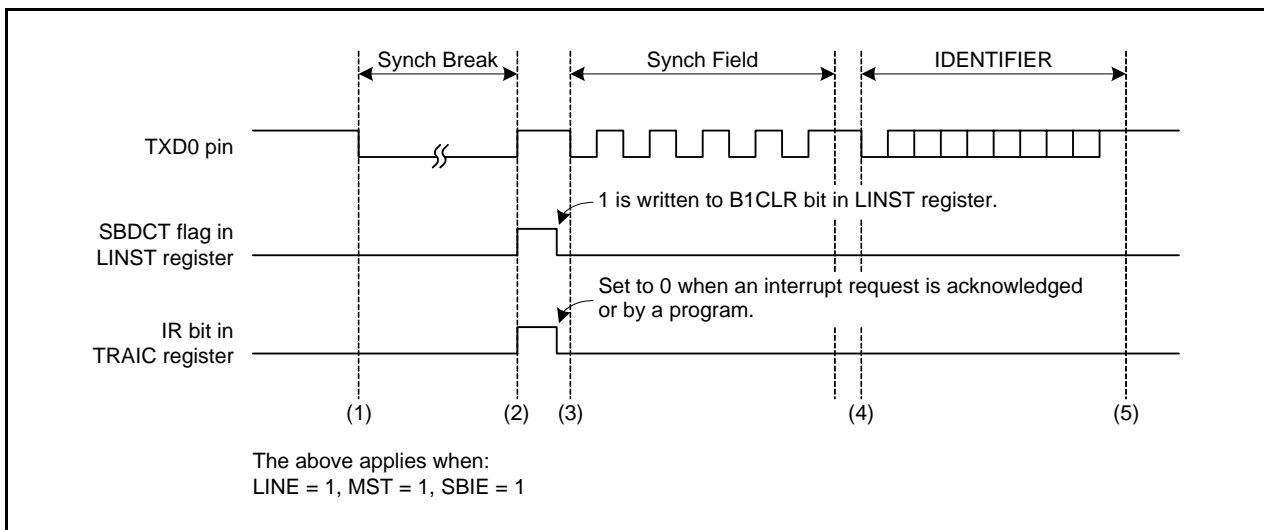
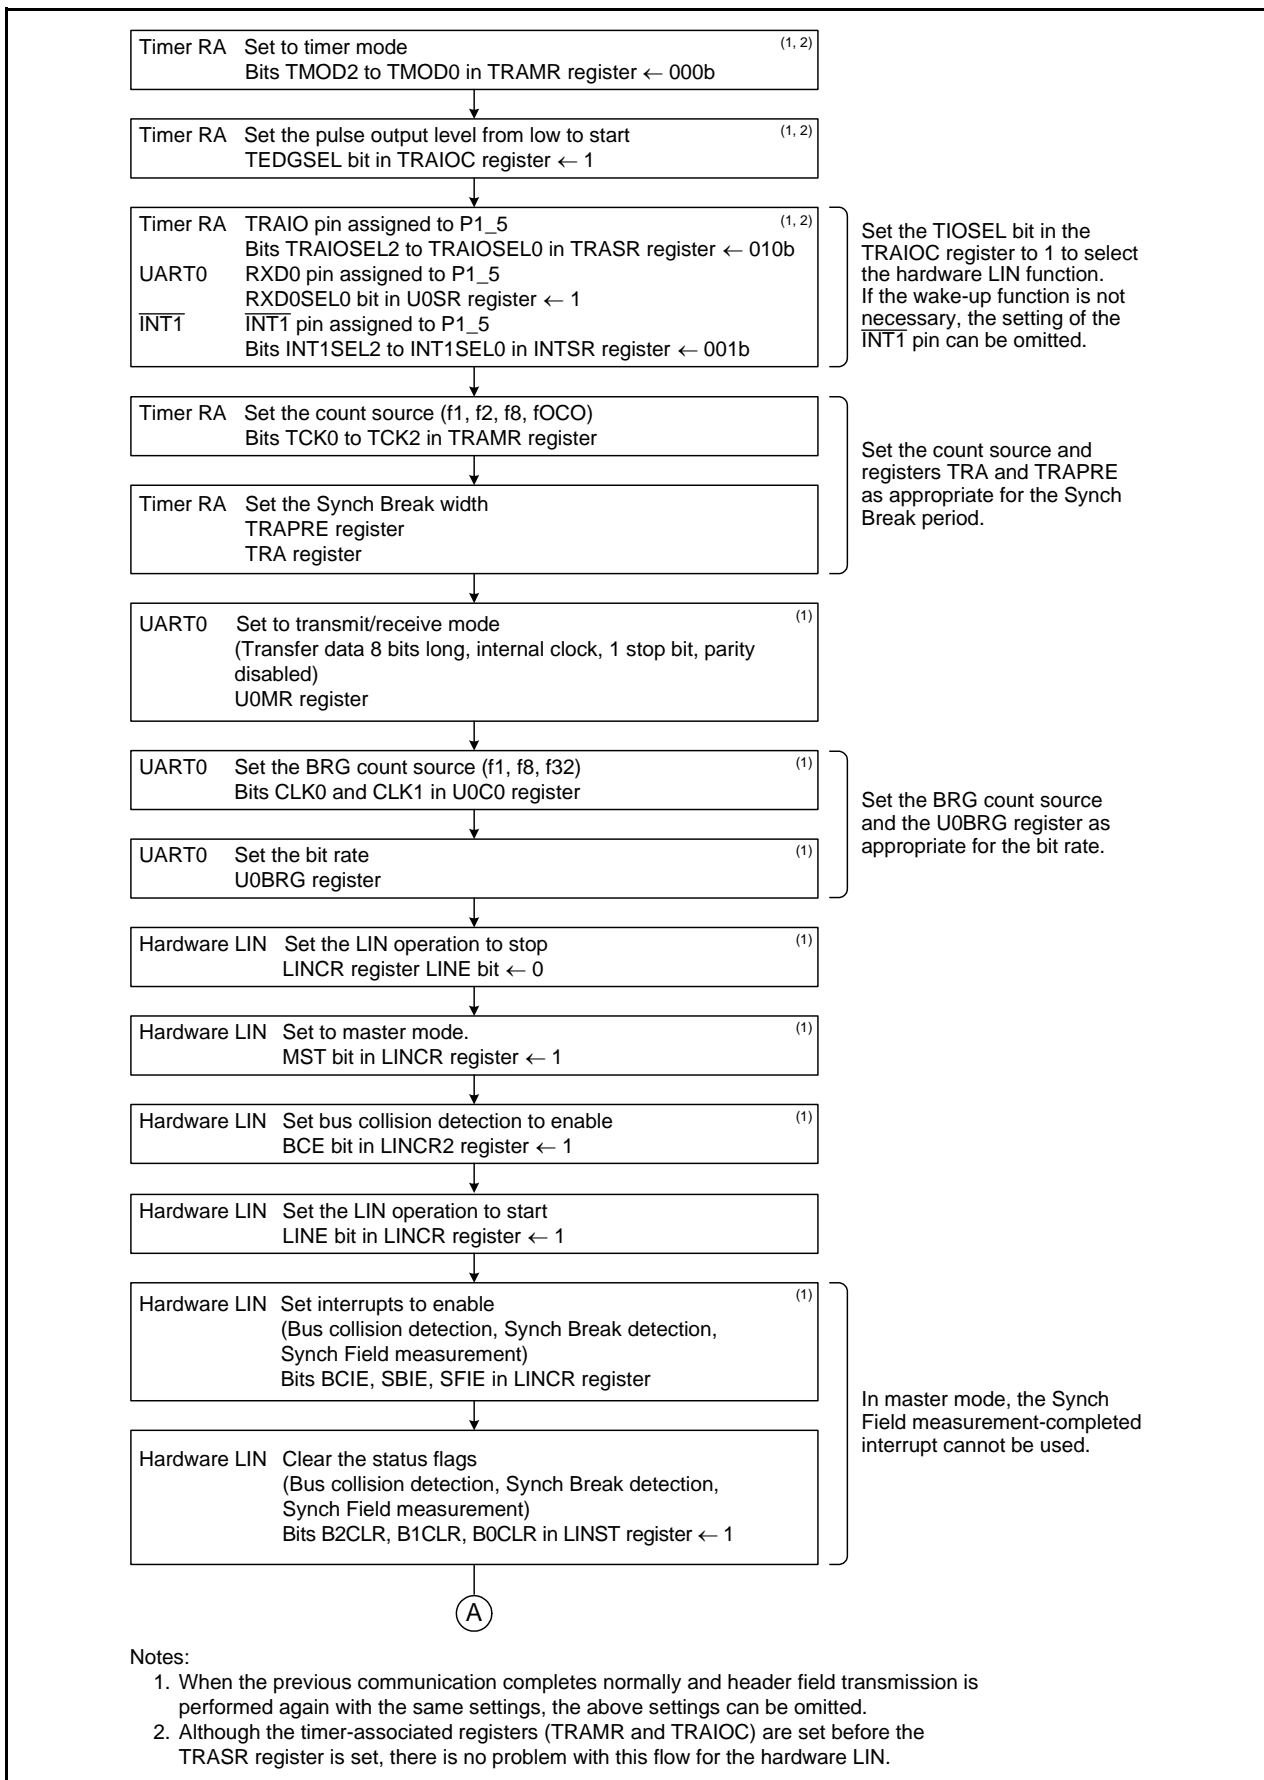
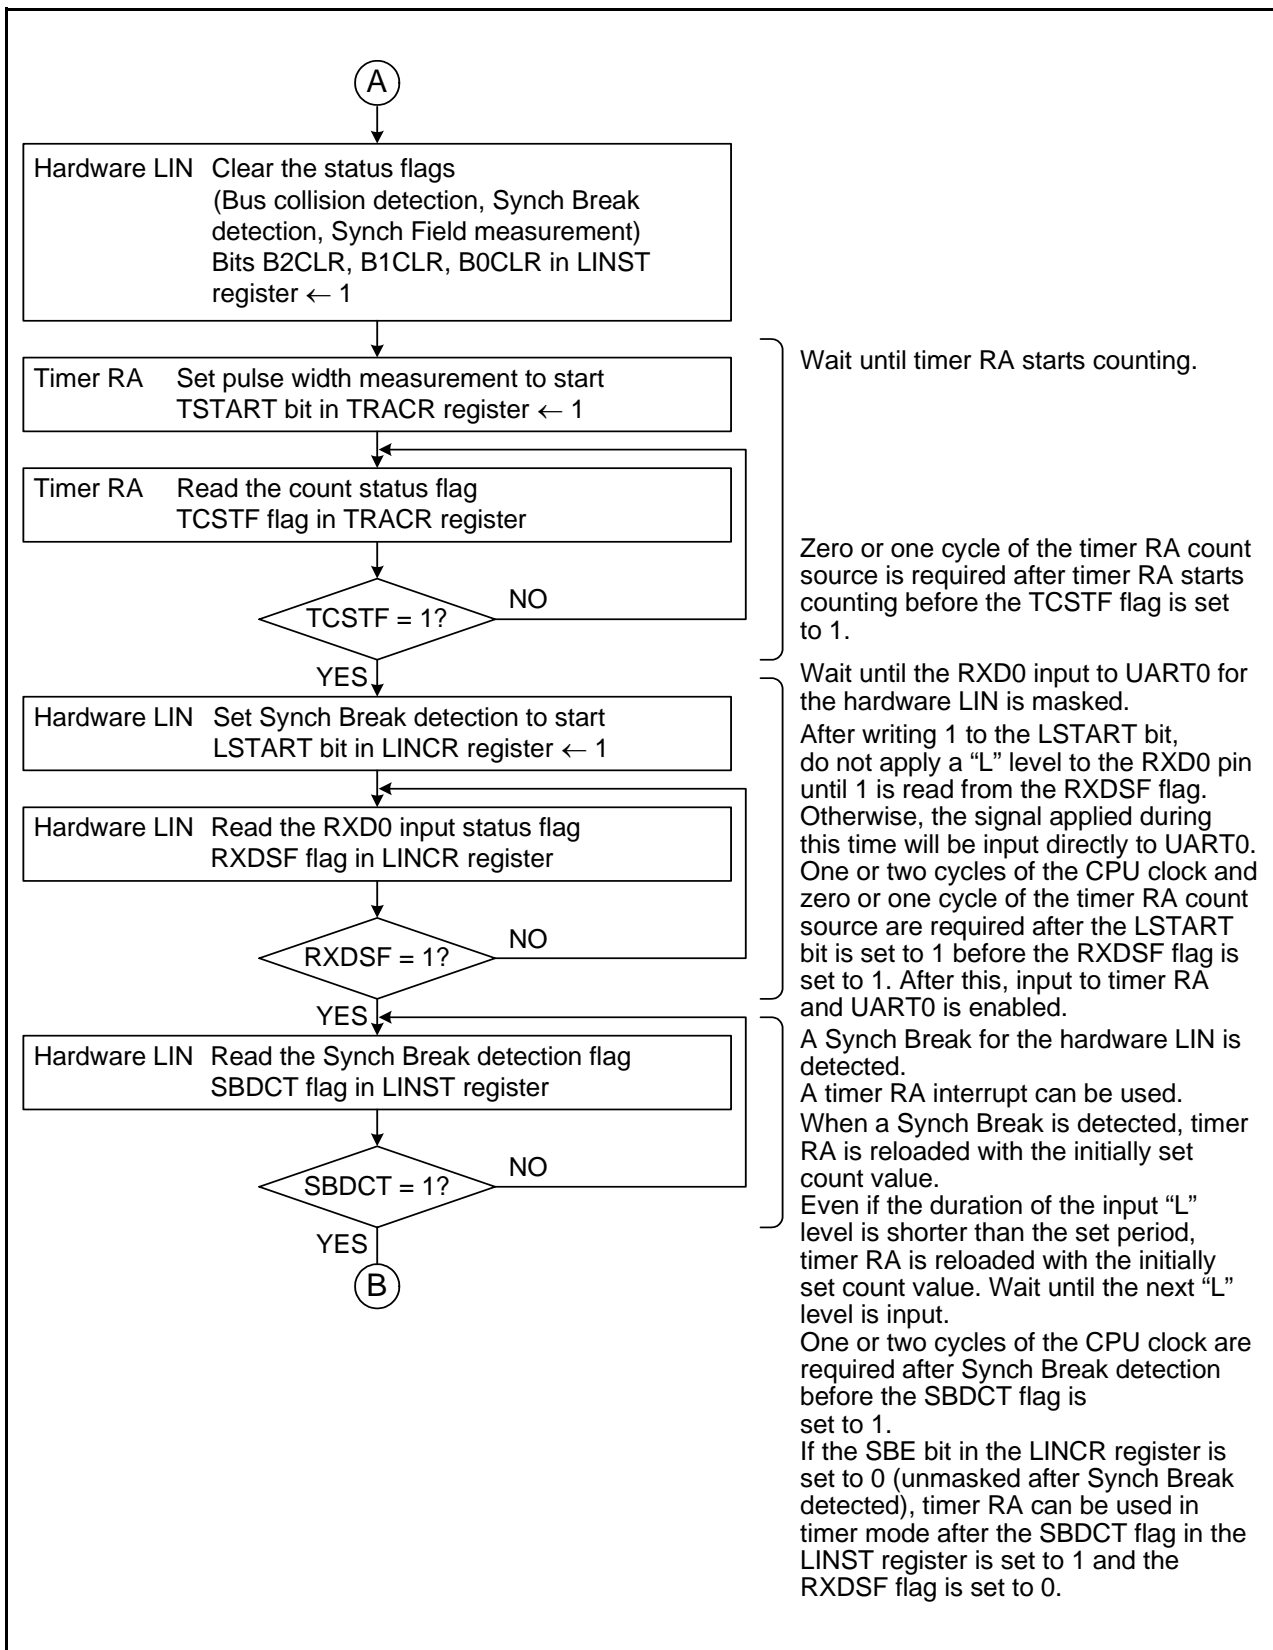

Figure 25.2 Operating Example during Header Field Transmission
Figure 25.3 Header Field Transmission Flowchart Example (1)
Figure 25.7 Header Field Reception Flowchart Example (2)
3. Inputs to timer RA and UART0 are disabled immediately after the LINE bit is set to 1 (LIN operation starts) (refer to **Figure 25.3 Header Field Transmission Flowchart Example (1)** and **Figure 25.7 Header Field Reception Flowchart Example (2)**).
Figure 25.2 shows an Operating Example during Header Field Transmission in master mode. Figures 25.3 and 25.4 show Examples of Header Field Transmission Flowchart.